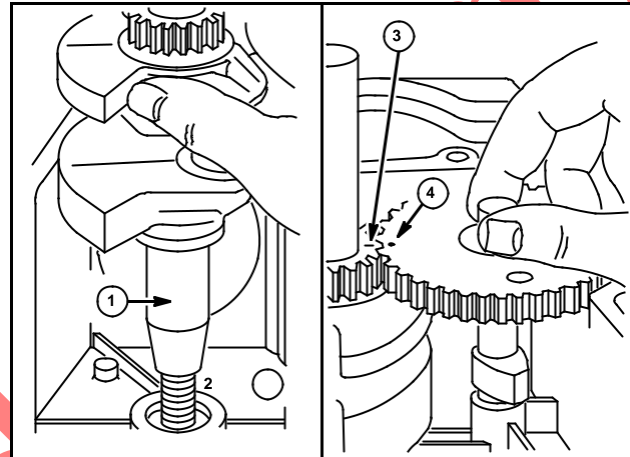

Fig. 13
2. Apply oil to the crankshaft journal (1).
3. Install crankshaft to magneto side of engine (2), using Seal Protector Kit, Tool #19356. See Table No. 4, Page 27, Specifications, for correct seal protector color code.
4. Turn crankshaft until timing mark (3) is facing carburetor side of cylinder. Install cam gear (4) with timing mark aligned to crankshaft timing mark, Fig. 13.
NOTE: Many Model Series have a removable timing gear. Install timing gear with inner chamfer toward crank pin. This assures the timing mark will be visible, Fig. 13.